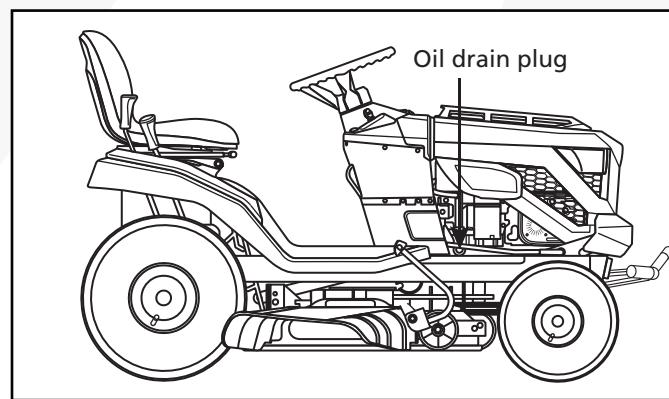

Fig. 36
1. Put the unit on a level surface as shown in Fig. 36.